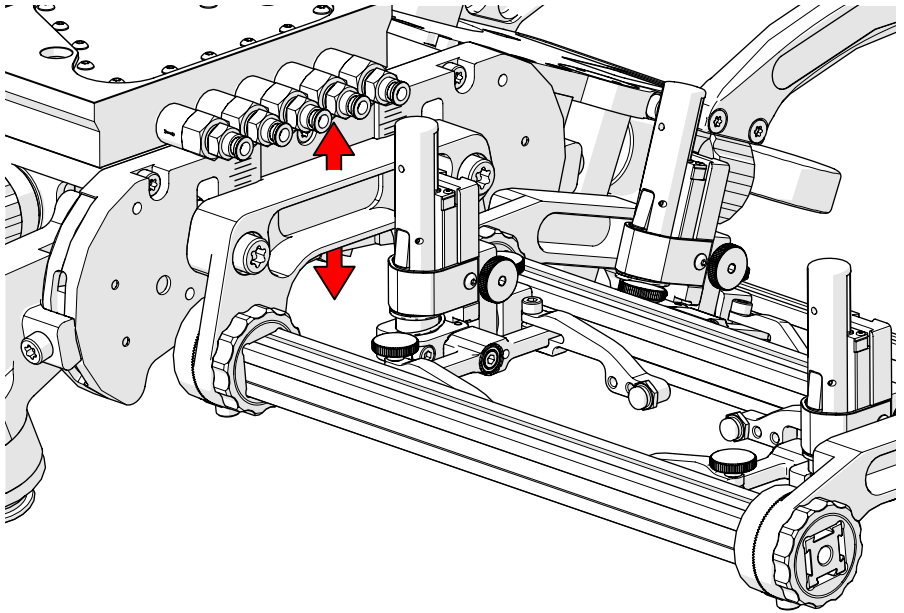

Fig. 153 - Vertical probe holder frame positioning
4. Before tightening the screws completely, the probe holder frame may be positioned vertically (*Fig. 153*).